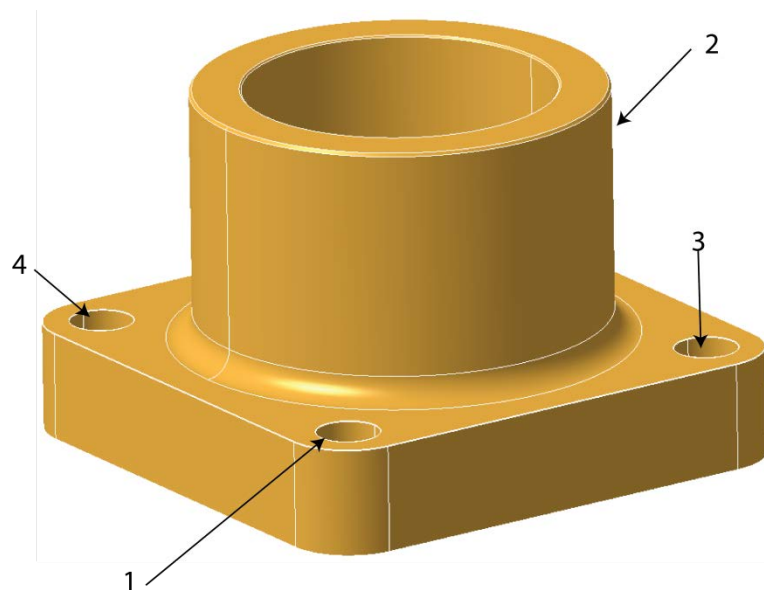

Figure 2 Torque Sequence
3. Insert the four hex head screws. Tighten the screws to 22 N-m using the torque sequence shown in Figure 2.